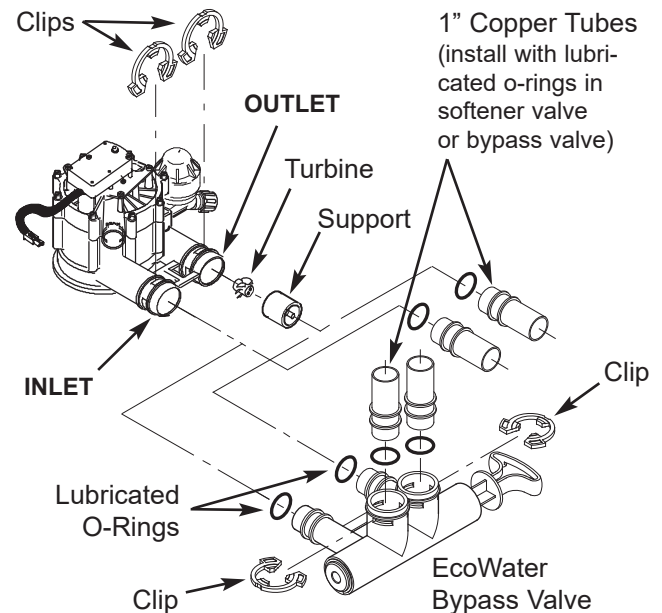

FIG. 6
- a. If installing a single bypass valve, push the bypass valve, with lubricated o-ring seals in place, into the valve inlet and outlet ports (See Figure 6).
- b. If installing a 3-valve bypass system, slide copper tubes, with lubricated o-ring seals in place, into the valve inlet and outlet ports, respectively (See Figure 6).